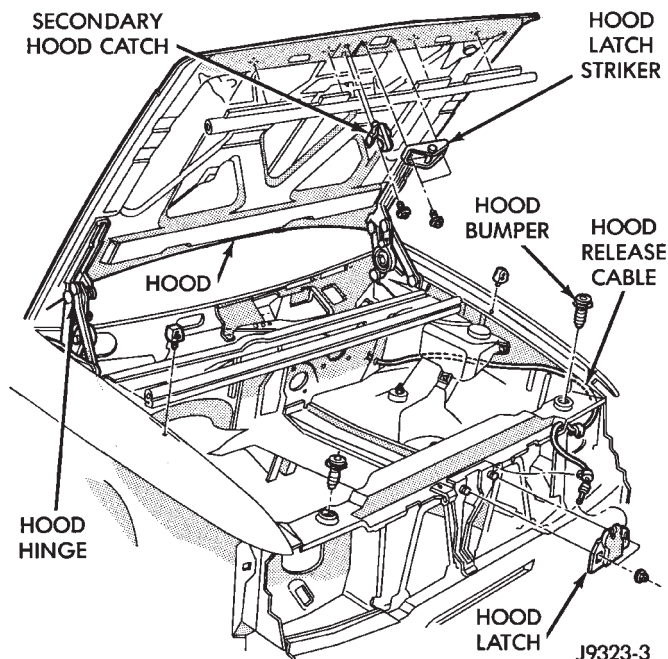

Fig. 4 Hood Striker and Release Cable
- (1) Remove nuts that attach latch to radiator crossmember support (Fig. 4).
- (2) Disconnect latch from the hood release cable. Remove latch.